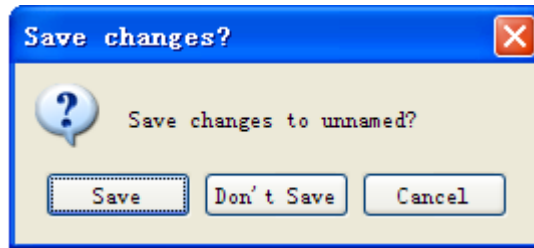
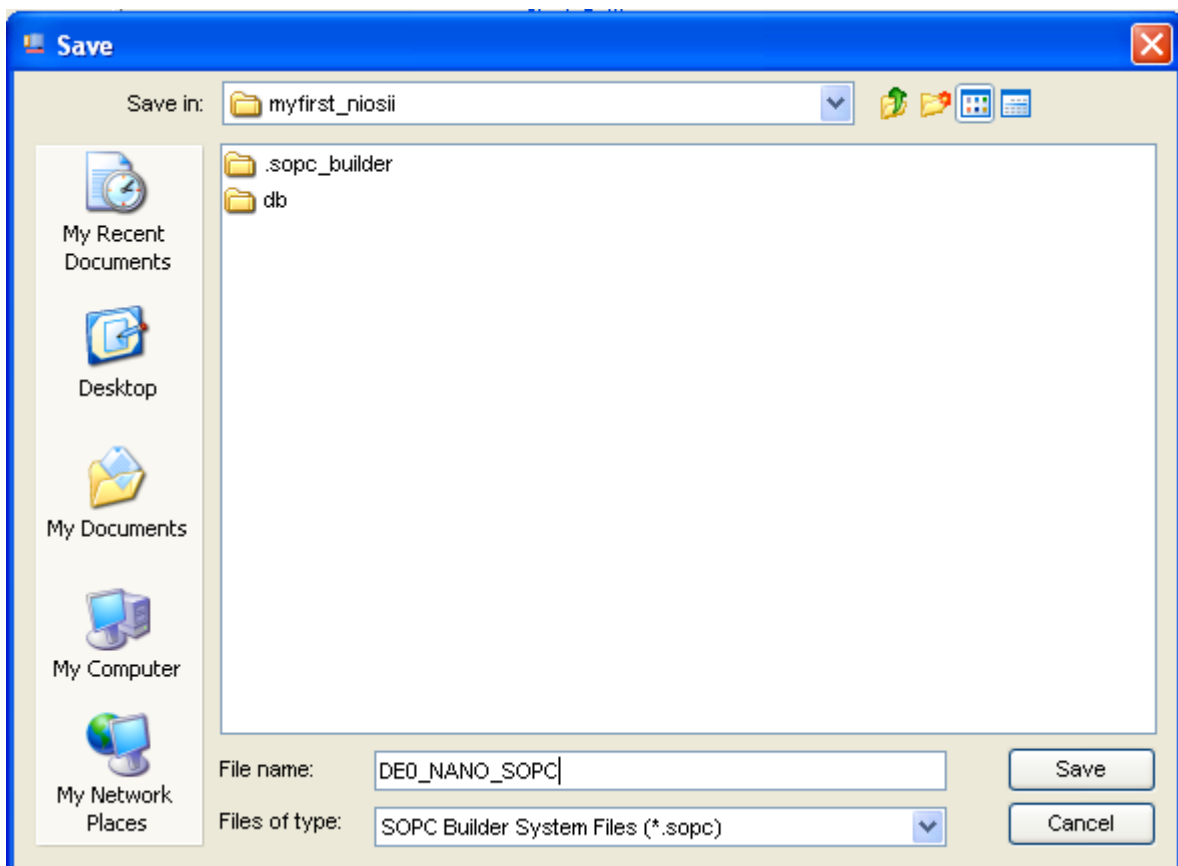
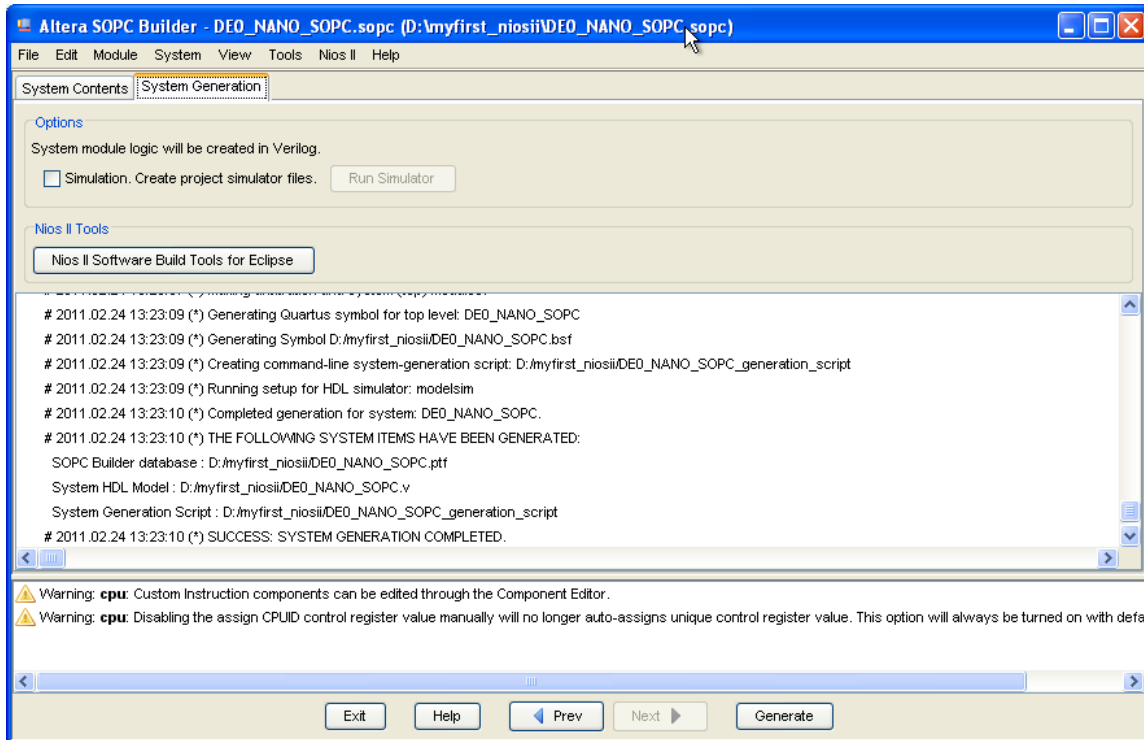

Figure 7-36 Generate SOPC
Figure 7-37 Generate SOPC
Figure 7-38 Generate SOPC Completely
23. Click **Generate** and then pop a window as shown in **Figure 7-36**. Click **Save** and at the time a windows as **Figure 7-37** will appear, please input the name and save, then the compilation start. If there are no errors in the generation, the window will show successful as shown in **Figure 7-38**.